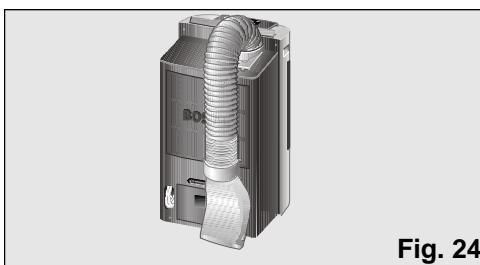

**Fig. 23**
- ❑ Before tilting it, empty the condensed water from the internal tank by extracting the water drainage pipe from its housing and removing the plug, **Fig. 23**. Place a receptacle (or the appliance's removable tank) at the end of the water drainage pipe to collect the condensed water or lead the pipe to the nearest drain. Do not forget to replace the plug and reinsert the pipe in its housing when the tank is empty.